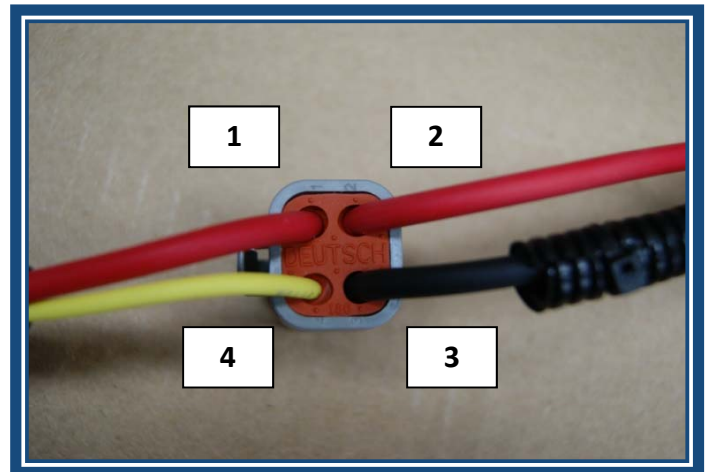

Figure 5
**Step 5:** Verify all the wires are in their correct positions and locked in place. (See Figure 5)